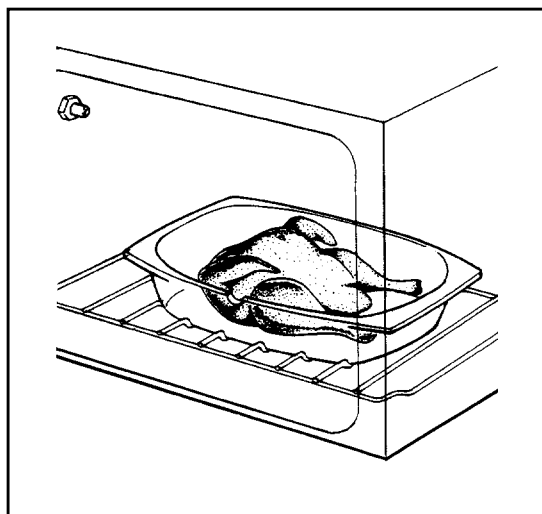

Fig. 7
- 2 - Place the food in suitable ovenproof pans or pots and place them on the oven shelf (Fig. 7). Set the shelf level according to the cooking table. The second shelf level from the bottom usually gives the best cooking results.